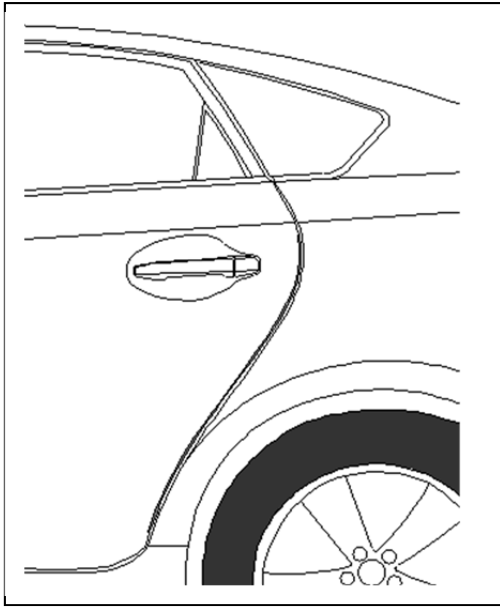

Fig. 1-9
- (8) Carefully close the rear door and visually ensure the DEG has sufficient clearance from the adjoining body panels. Carefully remove the template from the door and retain for use on the passenger side (Fig. 1-9).